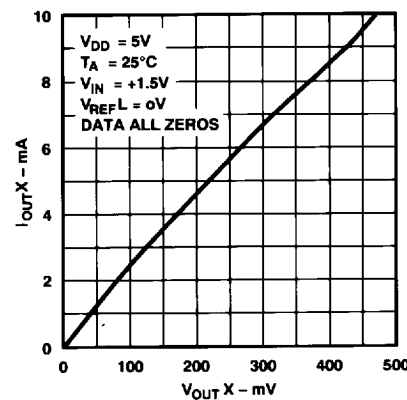

Figure 9. Zero-Scale Output Detail
**Operation Near ground** - The input stage of the internal buffer amplifier functions down to ground, but the output stage cannot pull lower than the internal ground voltage. When a DAC output tries to output a voltage at or below the internal ground potential, it saturates and appears like a 50  $\Omega$  resistor to ground. The typical saturation voltage appearing at the output is 20 mV, see Figure 9. The 100 mV worst case zero-scale voltage specification reflects this saturation effect, including the worst case anticipated variation of the internal ground resistances, quiescent currents and buffer sinking current. Linearity is measured between code  $8_{10}$  and code  $255_{10}$  to avoid this saturation effect. In summary, the transfer function of each DAC will be a straight line from code 8 to code 255 when  $V_{REF L} = 0 V$ . For input codes 0 to 7, some DAC outputs will be saturated in the zero-scale output voltage region; therefore, changing digital code 0 to 1 may not change the output voltage when  $V_{REF L} = 0 V$ .